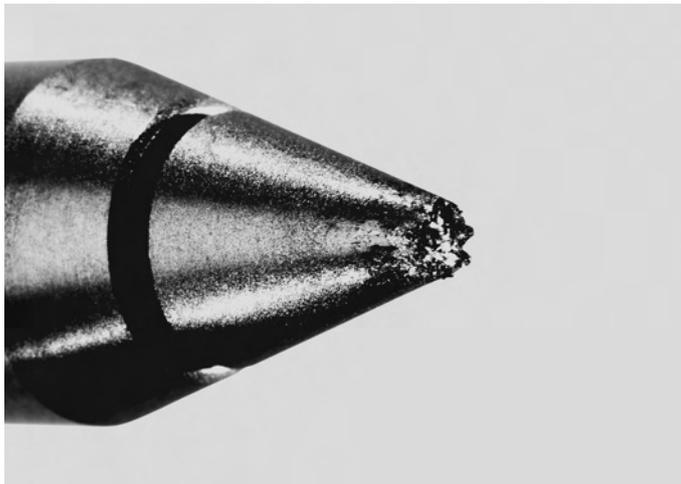

Fig. 31 Fissuring of the cathode tip as a result of excessive current ripple.
**Residual lamp current ripple:** This is an effect over time. High residual ripple leads to fissuring of the cathode tip (see Fig. 31) and, if it continues, also to distortion of the anode surface. Excessive ripple values can be regarded as the most important cause of inadequate arc stability.
A spherical cathode tip (Fig. 34, page 40) is easy to diagnose as incorrect polarity. Fig. 31, page 36, shows a cathode tip fissured as a result of increased current ripple. Fig. 35 shows the front face of an anode whose growth was caused by a lop-sided arc in horizontal operation (incorrect magnetic stabilization).